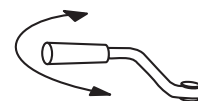

Figure 20. Dump Control Lever
1. Pull hydraulic dump lever (Figure 20) outward to place drum in **dump** position (Figure 21).